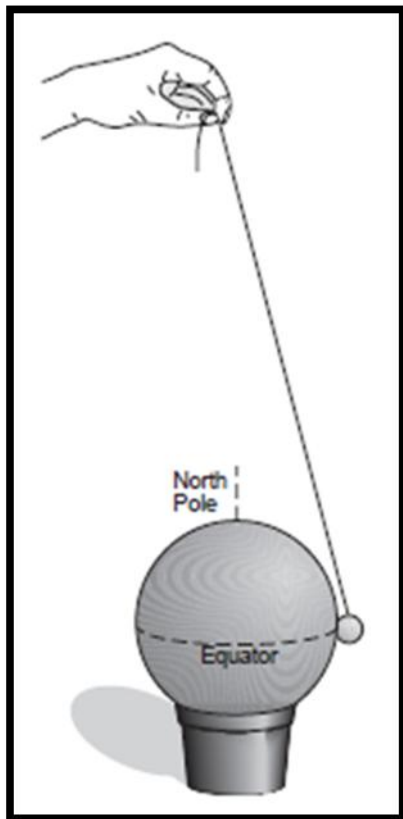

Figure 4. Looking from the side - method for holding the rocket (eraser) against the equator of the Earth (ball), using the string.
3. Hold the other end of the string about 2 - 4 feet above the globe. The eraser should rest against the side of the globe, at the equator, as seen in Figure 4. You can tie the string up or have a fellow Rocket Scientist hold it.